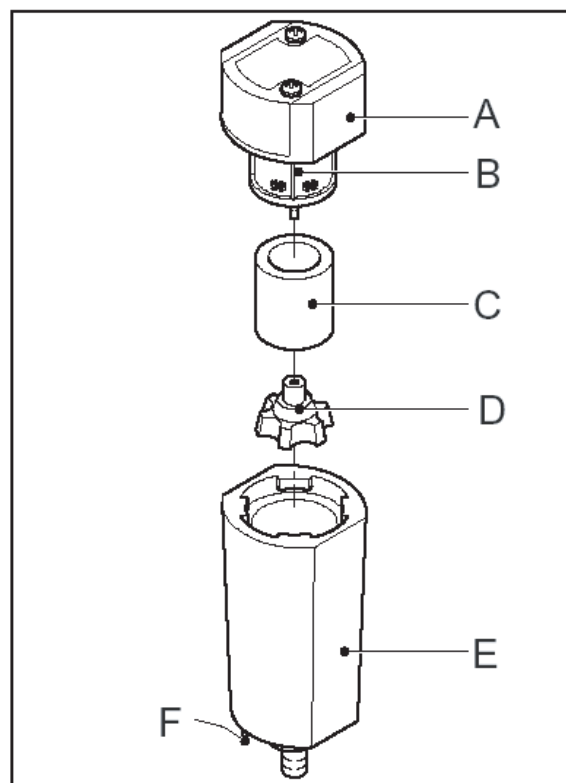

Figure 8.1 Filter
2. Depressurize the generator unit by opening the brass screw/pin (F on Fig 8.1) on the bottom of the filter bowl. After air stops bleeding, bowl can be removed.
3. Turn the filter pot (E) counter clockwise and pull the pot from the filter housing (A).
4. Unscrew the nut (F).
5. Remove the drain unit (B-E) from the filter pot (A).
6. Remove the O-ring (E).
7. Carefully pull the floating house (B) from the seat (D). Do not bend the needle (C).